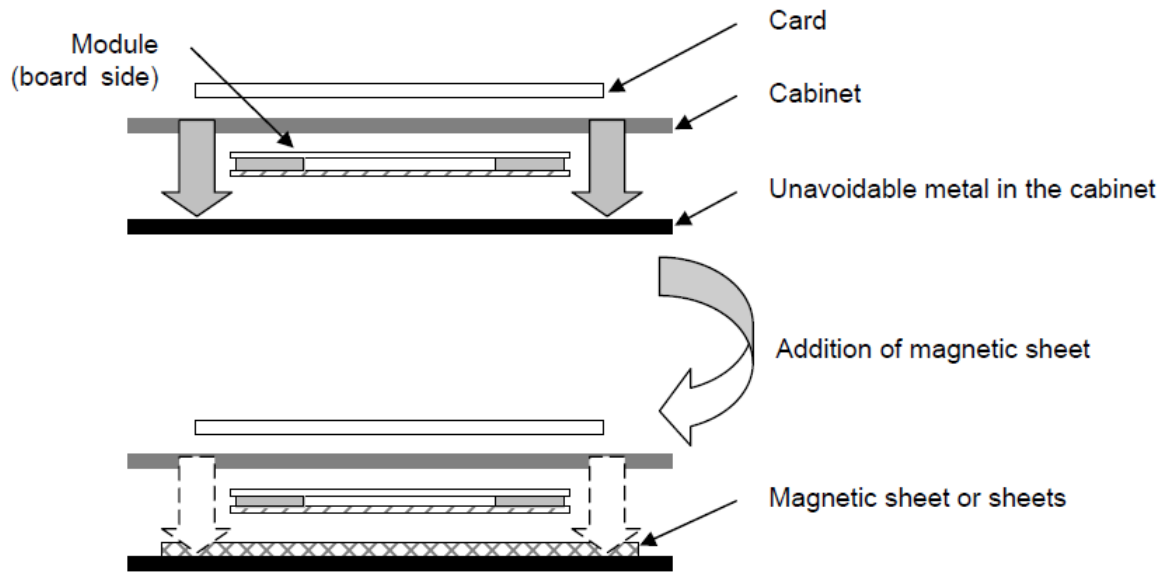

Figure A-2: Reducing the effects of metal
- If no performance improvement is achieved by the previous instructions, attempt to add at least one magnetic sheet (70 mm x 60 mm or larger) to the metal surface that faces the card, as shown in Figure A-2, and keep the module at least 3 mm ( $d > 3$ ) away from any metal plate.